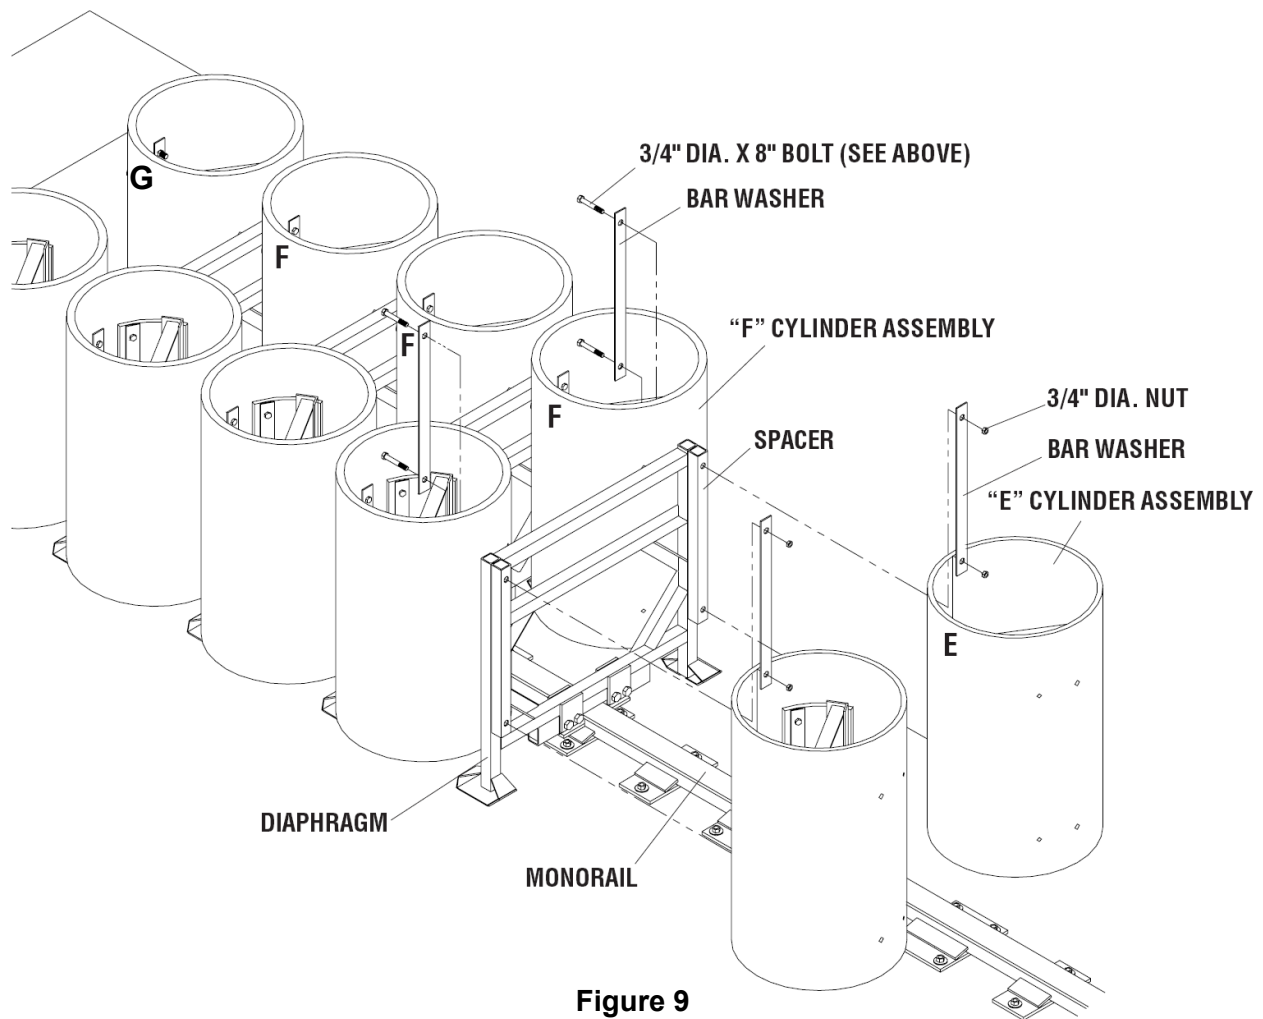

Figure 9
3. Reassemble "E" Cylinder/Diaphragm Assembly onto "F" Cylinder Assemblies making sure the spacers are in place as shown in Figure 9.